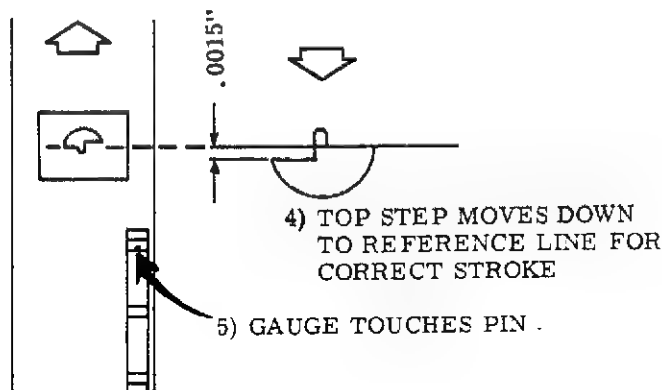

Figure 3-24. CLAW PULL DOWN STROKE
7. Pull up on the Gauge. The projected Target will move down. The upper Target step must touch the reference line drawn in Step 6 for correct stroke (Figure 3-24).